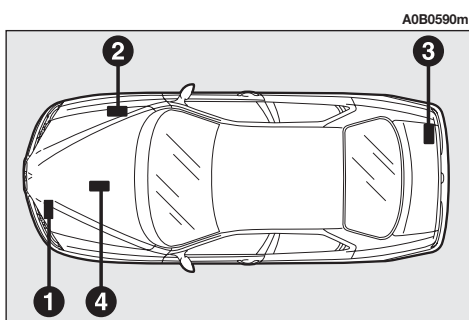
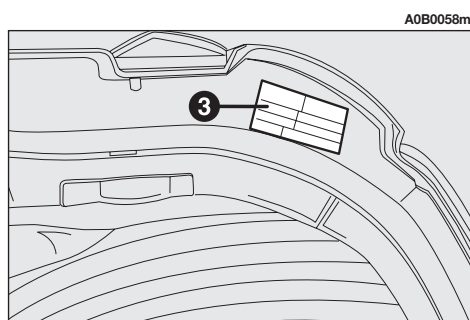

fig. 1
fig. 2
- Saloon versions = **fig. 1**
- Sportwagon versions = **fig. 2**
On the Saloon versions, the plate is applied in the internal part of the luggage compartment (**3-fig. 1**), while on the Sportwagon versions it is applied on the right-hand internal edge of the tailgate (**3-fig. 2**). The plate carries the following data (**fig. 3**):